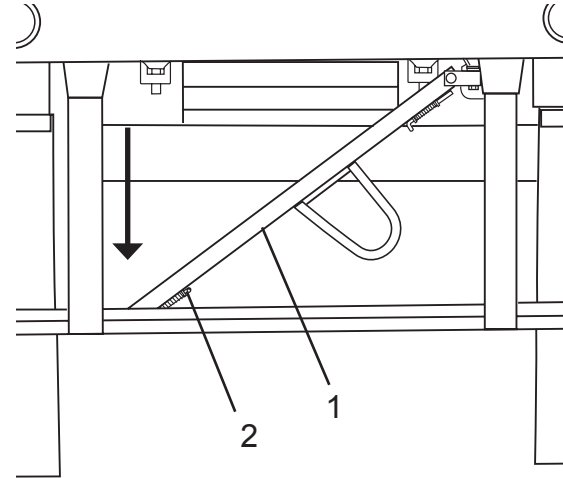

Figure 50
4. Standing behind the tailgate remove the prop from the pocket and swing the prop (Figure 50, Item, 1) away to the stored position and install retaining pin (Figure 50, Item 2).